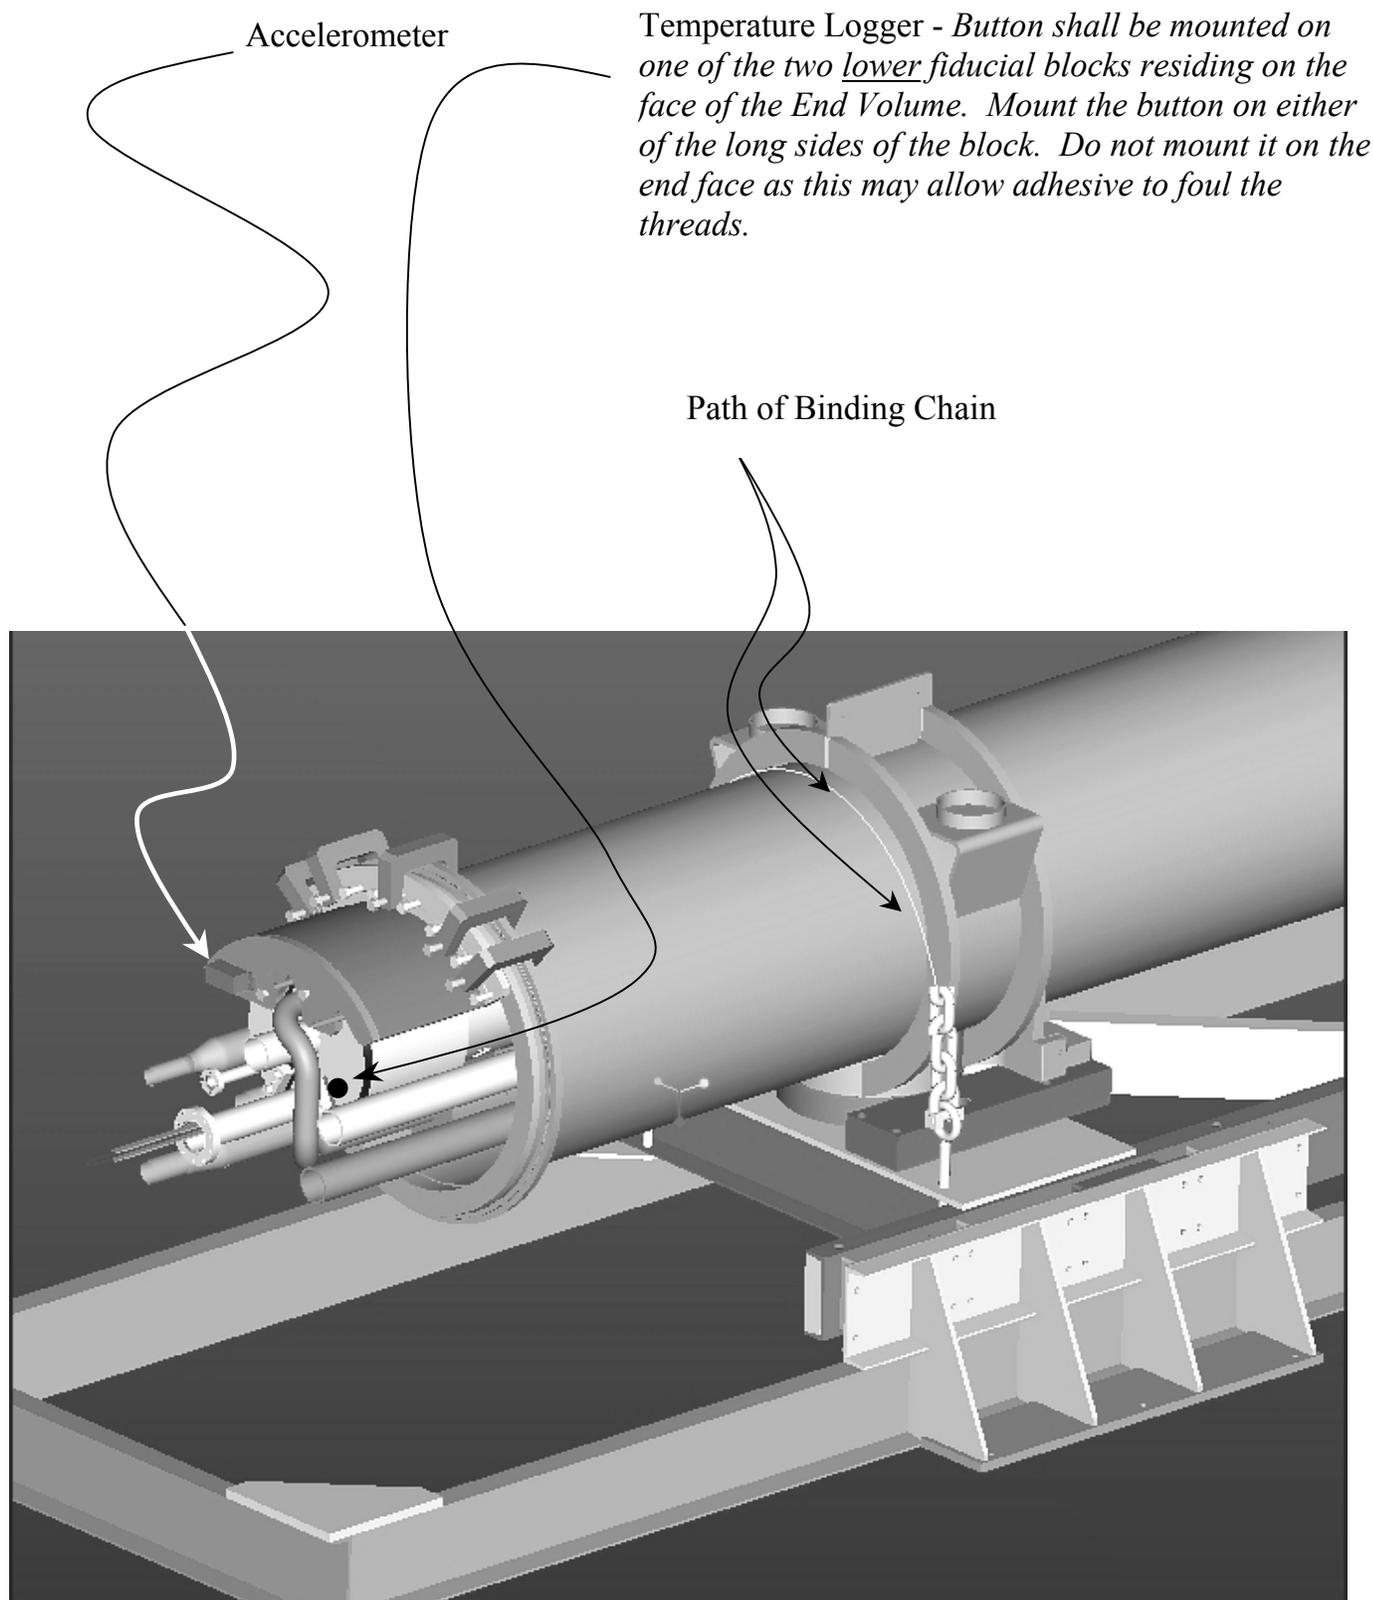

Figure 3
**See figures 3 & 5 for locations**
**See figures 3, 4 & 5 for fixture arrangements**